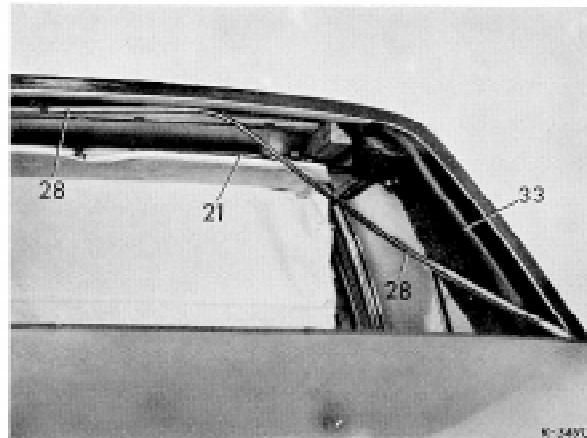

Fig. 4
11 Move teleflex tube (28) forward and simultaneously toward the left, so that the teleflex tube can be pulled out of rear pillar (Fig. 4).